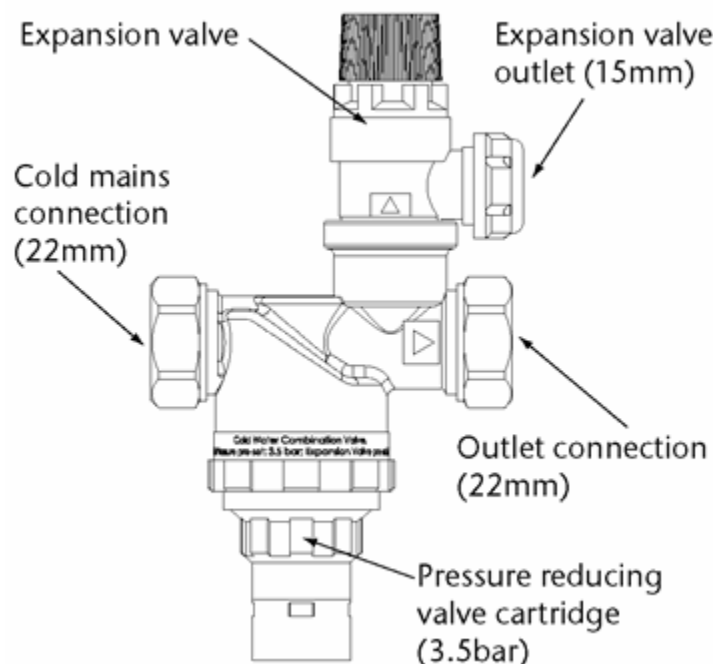

FIG. 1 Cold water combination valve
3.3 COLD WATER COMBINATION VALVE (FIG 1)